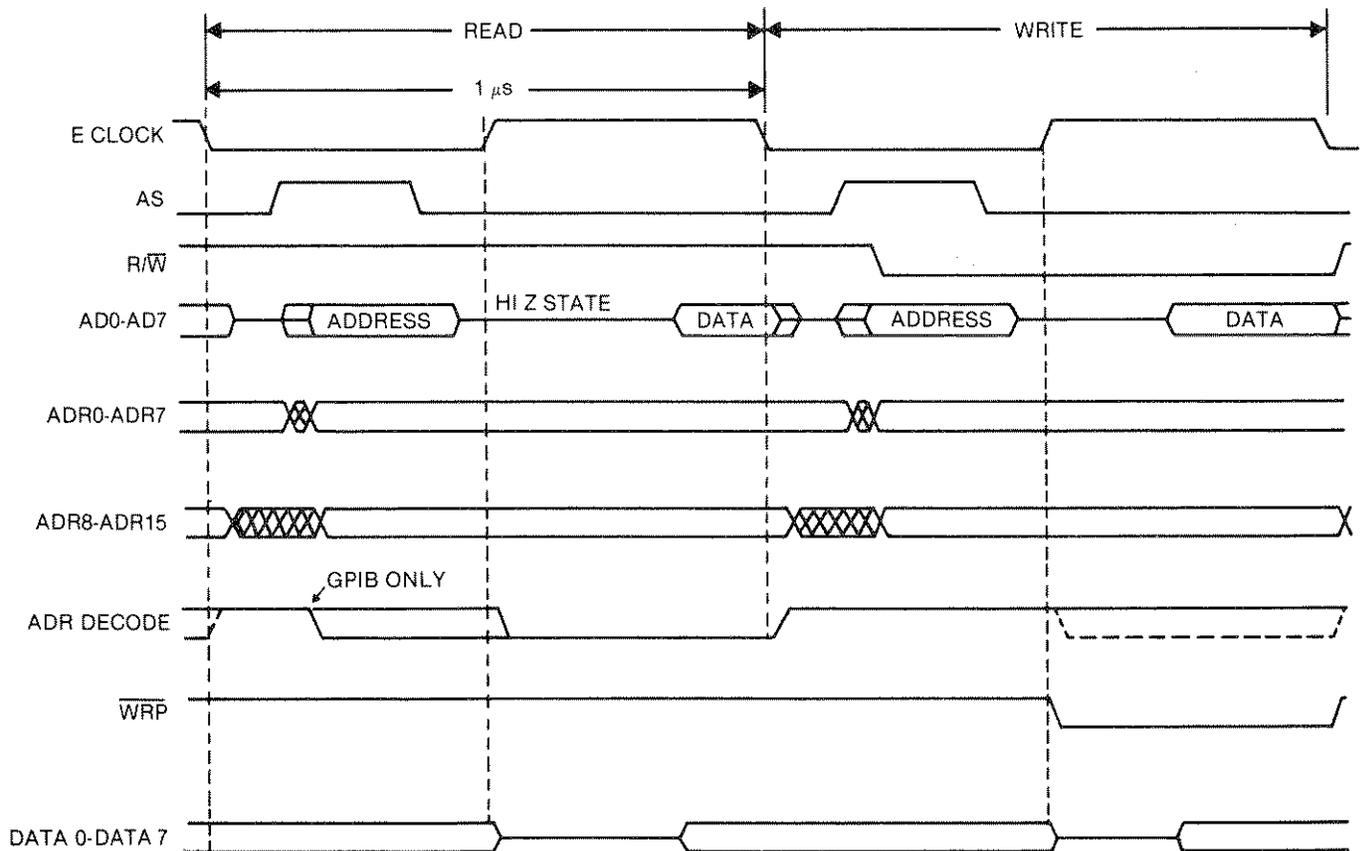

Figure 4-4. Microprocessor Timing Diagram
A clock-generating circuit within the microprocessor uses an external 4 MHz crystal, Y1, between the XTAL 1 and XTAL 2 pins to develop its internal phase clocks and the 1 MHz system enable clock (E). Figure 4-4 shows the approximate timing for major signals and busses in the microprocessor/memory system. Actual system timing varies somewhat from instrument to instrument, so signal spacing may be different within the 1  $\mu$ s period of the system clock.
An octal latch, U4, demultiplexes the address/data bus from the microprocessor to hold the low-order addresses (ADR0-ADR7) during the part of the E clock cycle that data occurs on the multiplexed bus. Latching occurs on the negative transition of the AS signal (U3, pin 39). See timing diagram, figure 4-4.